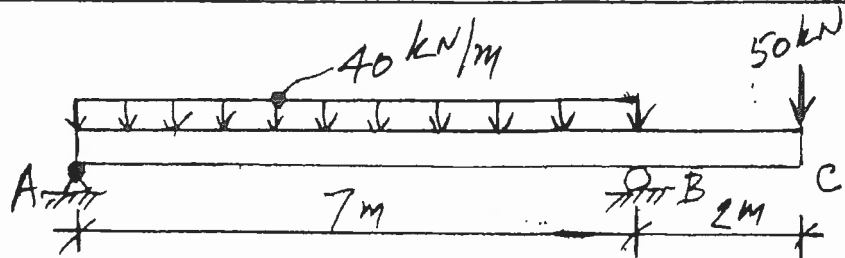

FIGURE B2
- B2. A overhanging reinforced concrete beam is loaded as shown in Figure B2. Determine the dimensions of its rectangular cross-section and the steel reinforcements to satisfy moment and shear. Show the layout of the reinforcing steel. Take into account the self-weight of the beam. (Use $f'_c = 35$ MPa and $f_y = 400$ MPa.)